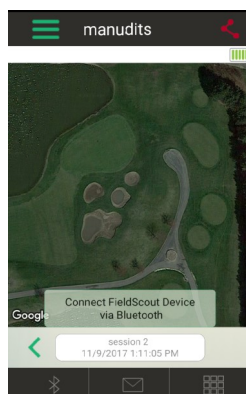

Figure 3. Bluetooth Connect button (freeform)
- b. For Freeform mode, the app will immediately transition to the **Take Reading** screen (Fig. 3).